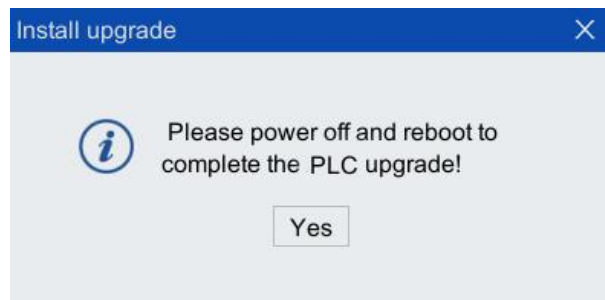

Figure 8-48 "Please power off and reboot to complete the upgrade!" dialog box
Step4. After upgrade, "Please power off and reboot to complete the upgrade!" dialog box in Figure 8-48 click <Yes> button, and power off and restart to complete the DCB firmware upgrade.